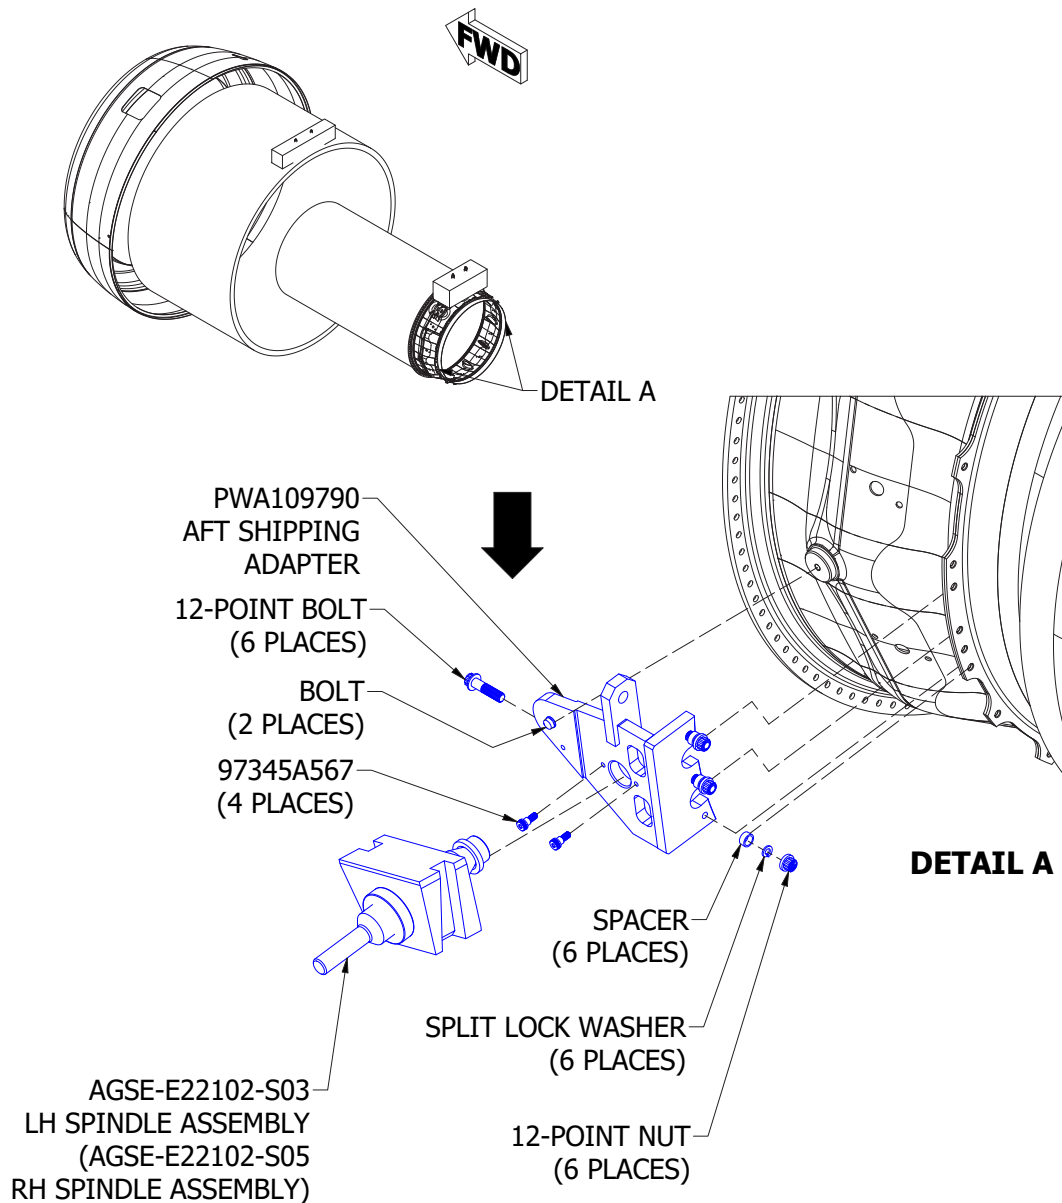

Figure 4.4-2
- 5). Install Pratt & Whitney PWA109790 AFT shipping adapter set on turbine exit case (TEC) with provided hardware (Figure 4.4-2). Torque bolts to 100-120 in-lbs.
- 6). Hand tighten AGSE-E22102-S03 LH spindle assy and AGSE-E22102-S05 RH spindle assy into the PWA109790 AFT shipping adapter set. Install four (4) 97345A567 shoulder bolts to hold spindle assemblies in place (Figure 4.4-2). Torque the shoulder bolts to 100-120 in-lbs.